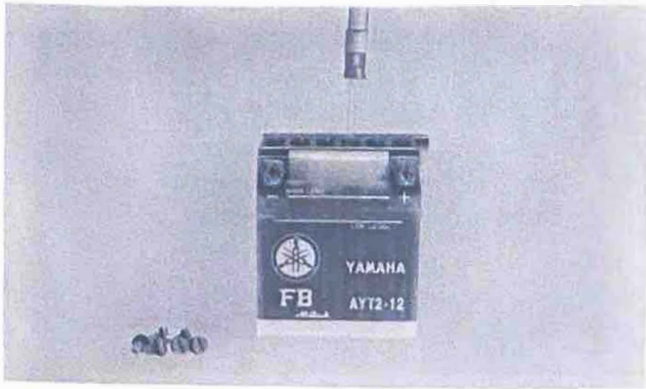

Fig. 43
- (2) Filling the battery with diluted sulfuric acid (Fig. 43)